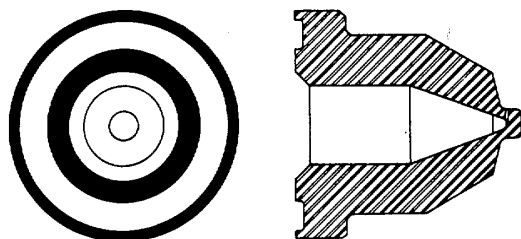

Fig. 6-1-21, F60161. Cup surface at body contact area
- a. For mutilation check in area (black area) as shown in Fig. 6-1-21.